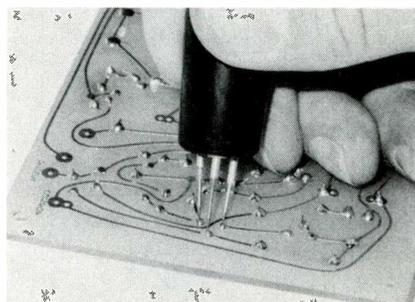

Fig. 2 Probe for use on circuit boards has three swiveling needle-pointed prods which are spring-loaded to maintain solid contact.
- Use the probe that has the three needle tips (Figure 2) to prevent slipping while making a firm contact through coatings or flux to the foil islands on the bottom side of the